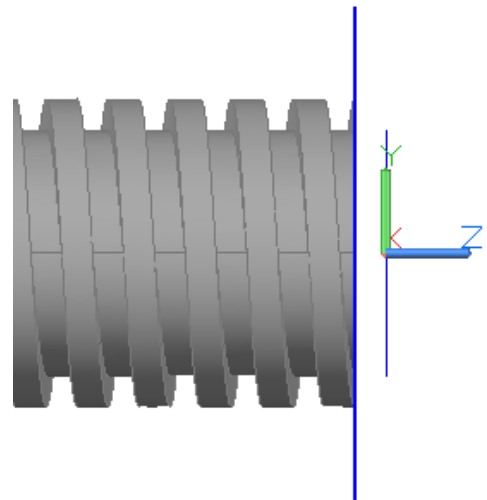

Figure Step 17
Step 17 Delete the end of the solid that you sliced off. (Figure Step 17)